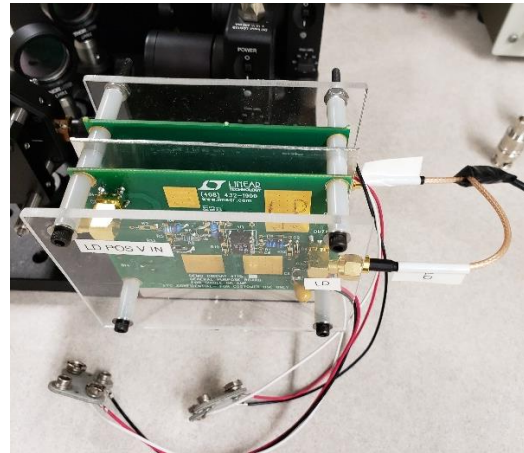

Figure 5: Laser Diode (LD) Connection
- b. Attach the LD side to the LD SMA connection (Figure 5 below)